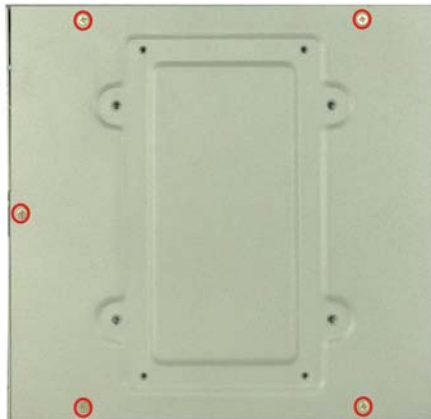

Figure 3-2: Remove Retention Screws (Bottom Panel)
Step 2: Remove five retention screws from the bottom panel, as shown in **Figure 3-2**.